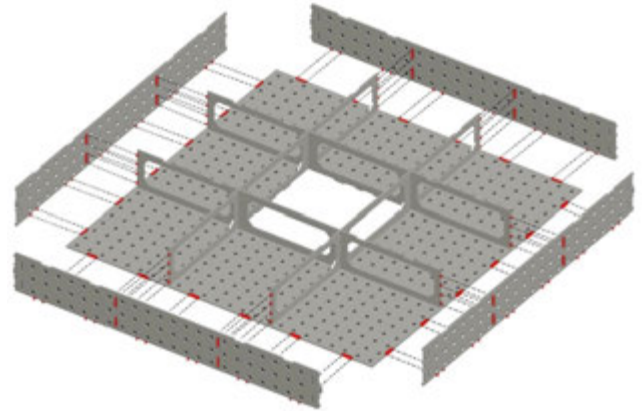

Figure 5-3
3. Put the table sides (items #2 and #3) in place as shown in Figure 5-3. Insert the welding tabs of the table sides into the welding notches of the table top edges. Also make sure the welding tabs on the ends of the support frames insert into the table side welding slots (see Figure 5-3).